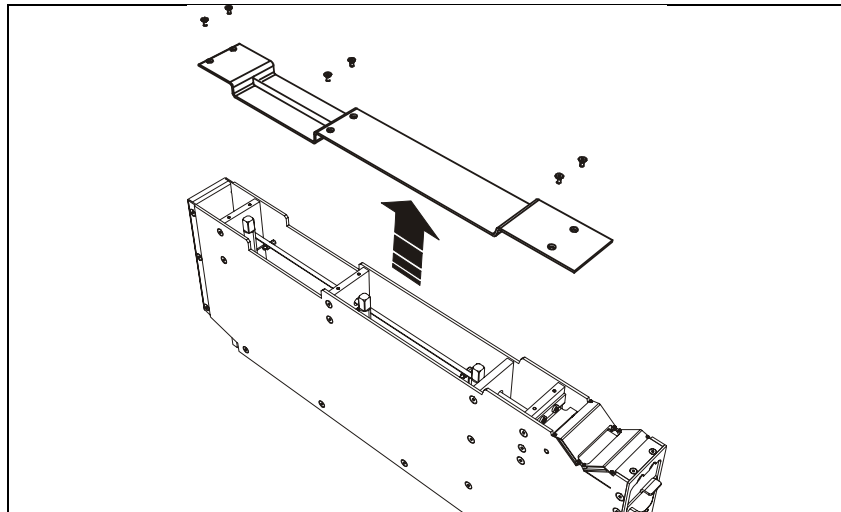

Figure 9-8. Remove camera lid.
1. Loosen the lid of the camera box and remove it (e.g. with a magnet). See Figure 9-8.